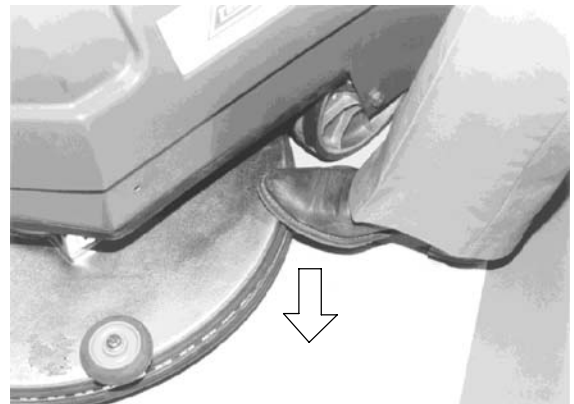

FIG. 2
2. Tap the right front side of the pad shroud with your toe. The head will rise to the pad mounting position (Figure 2).